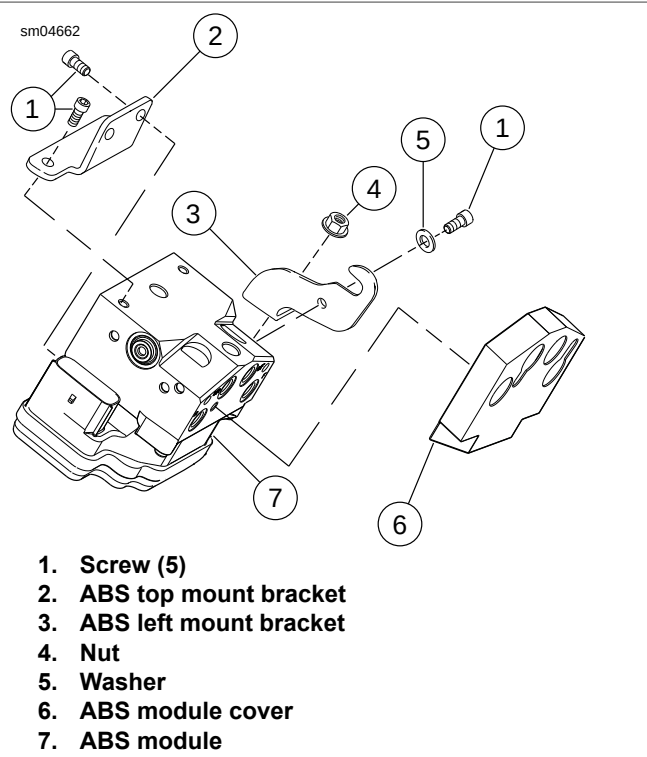

Figure C-2. ABS Module
1. See Figure C-2. Insert ABS module into head cavity of motorcycle frame.